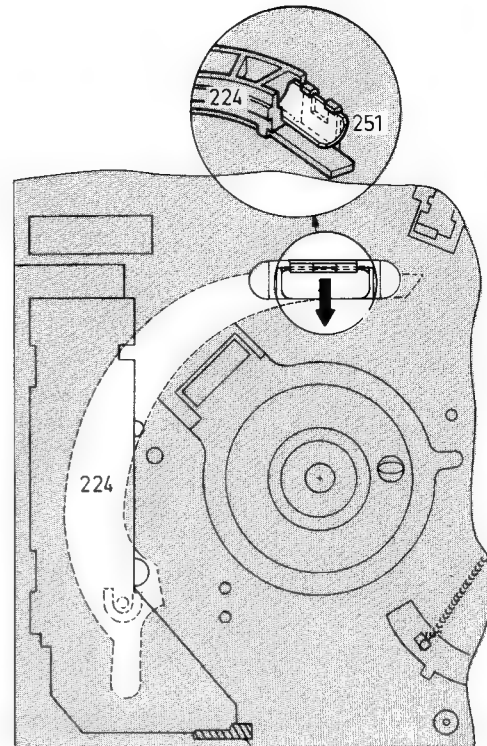

Fig. 1-20
- Demount the ring spring, Pos. 251 with pliers through the hole in the lower side of the chassis (Fig. 1.20).
- Thread in so long that the threading-in arm is free to be removed. Remove the threading-in arm, pos. 224 from the threading-in ring (attend to the scanner), (Fig. 1-20).